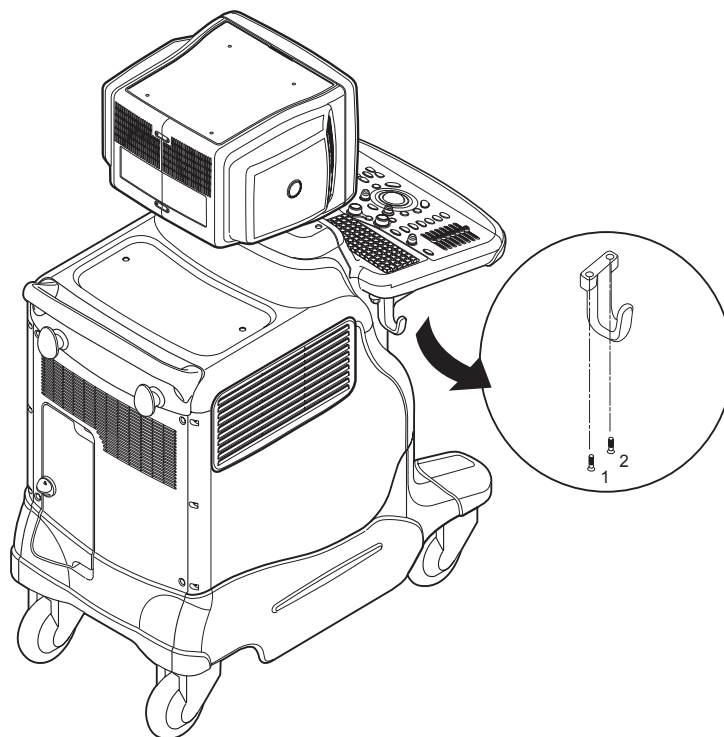

Figure 8-26 Removing ECG Cable Hook
- 2.) Unscrew two(1-2) screws from the bottom of the keyboard. Refer to Figure 8-26 on page 8-19 .